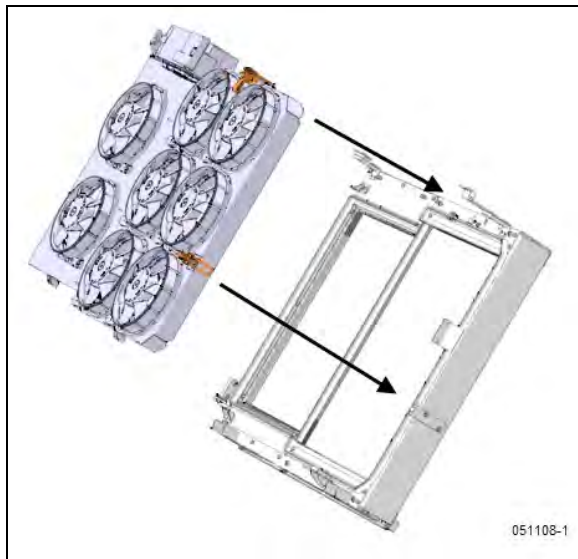

FIGURE 40: FAN SHROUD POSITIONING
25. Install fan shroud in position over the cooling pack (make sure the lower hinge is correctly assembled with plastic bushing in place) (Figure 40).